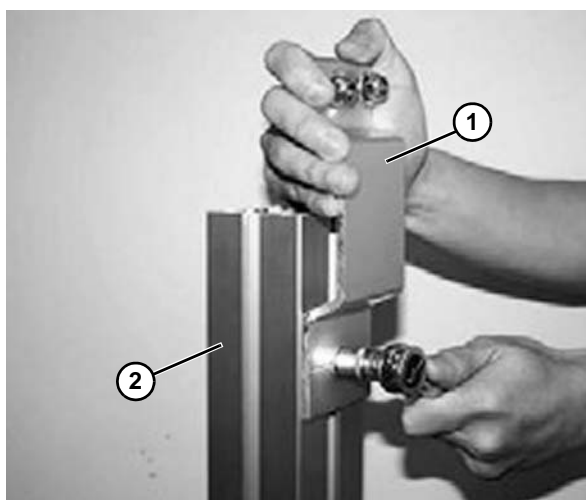

Figure 17
1. Attach screws, nuts and washers to the support bracket (**Figure 17, item 1**) before mounting. (Screws and square nuts are support beam fasteners; T-bolts and nuts are conveyor beam fasteners.) Slide the square nuts of one support bracket into the support beam T-slots. Tighten the screws. Make sure that the support bracket is aligned with the beam cross-section (**Figure 17, item 2**) as shown in the drawing.